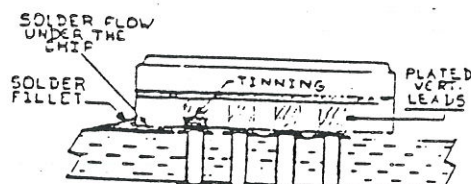

FIG. M-6
**** NOTE: IT IS NOT NECESSARY TO FLOW THE SOLDER ALL THE WAY UP THE PLATED PORTION OF THE LEGLESS LEAD ON THE VERTICAL SIDES OF THE CHIP. AS LONG AS THE LEADS WERE TINNED ON THE UNDERSIDE OF THE CHIP AND AT LEAST PARTIALLY UP THE VERTICAL SIDES, ALLOWING FOR A MINIMAL FILLET OF SOLDER BETWEEN THE PADS AND CHIP SIDES, YOU SHOULD HAVE NO PROBLEMS. ALSO, MAKE SURE THAT THE SOLDER FLOW HAS ENOUGH TIME TO WICK UP UNDER THE CHIP WHILE REMEMBERING NOT TO BURN A HOLE IN THE BOARD. HAVE FUN. REFER TO FIGURE M-6.